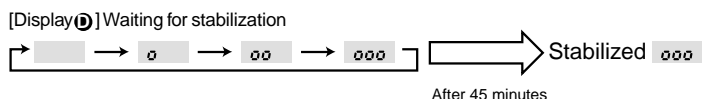

Fig. 8-3
③ Press **(FILTER)** (←) button to confirm. (Fig. 8-3)